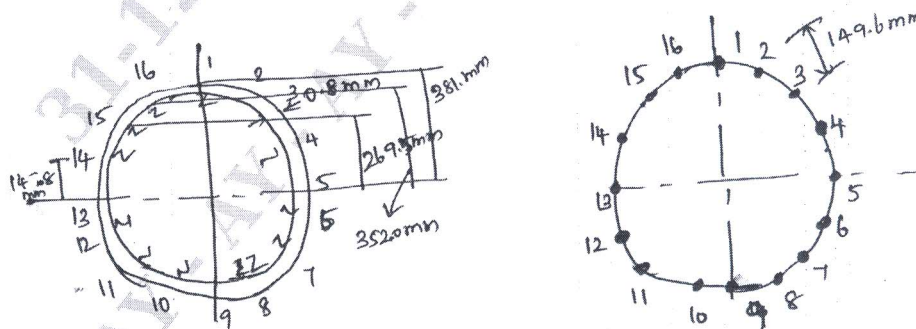

Fig. Q10
- 10 The fuselage of a light passenger carrying aircraft has the circular cross section shown in Fig. Q10. The cross sectional area of each stringer is 100 mm^2 and the vertical distance given in Fig. Q10 are to the mid-line of the section wall at the corresponding stringer position. If the fuselage is subjected to a bending moment of 200 kNm applied in the vertical plane of symmetry, at this section, calculate the direct stress distribution. (16 Marks)